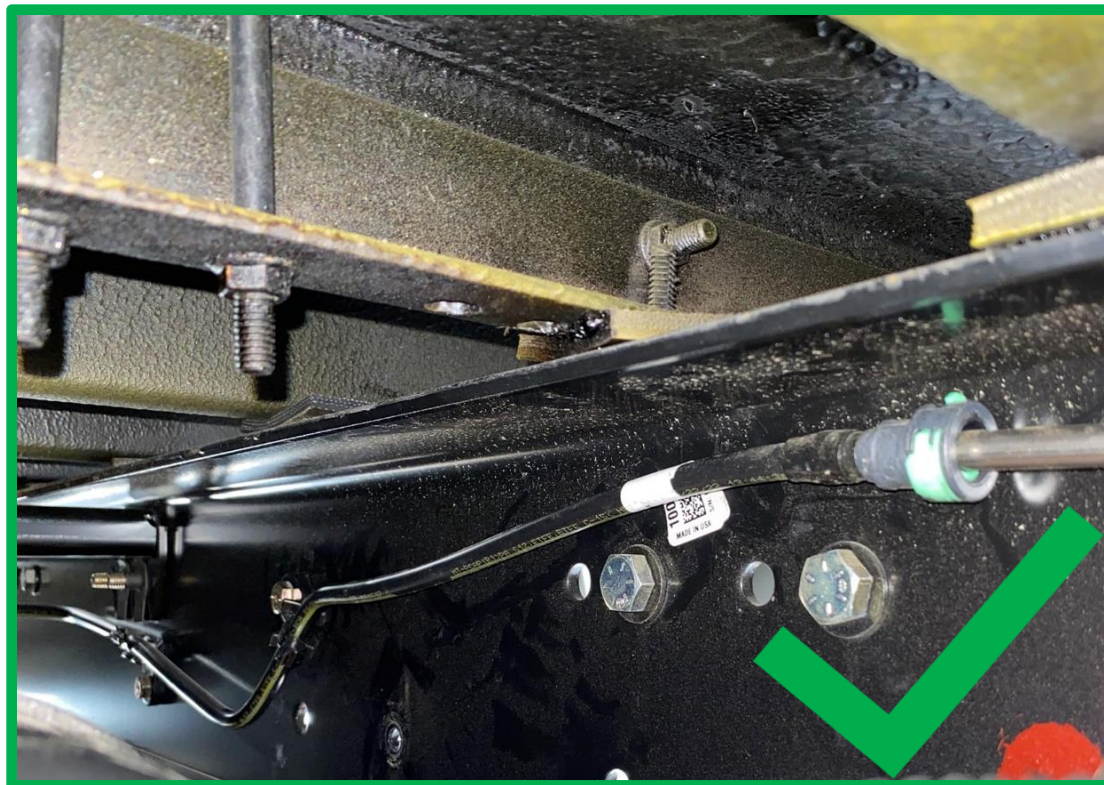

FIGURE 1
- **Repair A – Inspection Only** - Inspection finds no physical damage to the fuel line, and is routed properly, per Figure 1
- Remove and replace the fuel line. Ensure proper routing, per Figure 1, 2, 8, and 9 and secure.